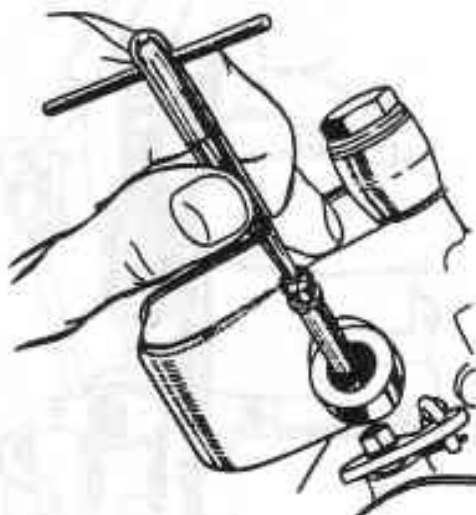

FIG. C.25. THE MAIN DISCHARGE JET.
- v) Using the special tool, withdraw the main discharge jet. Unless the special tool is available, no attempt must be made to remove the jet, never attempt to drive it out. It is, however, rarely necessary to remove the jet, and should be undertaken only in cases of blockage or damage (Fig. C.25.)